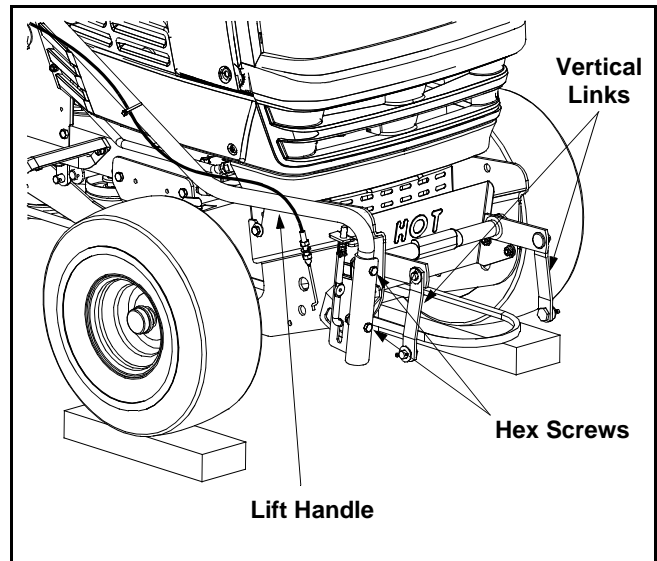

Figure 10
2. Attach the lift handle to the lift bracket found on the right side of the support carriage assembly with the two hex screws and two flange lock nuts just removed. See Figure 10.
4. Remove the clevis pin, flat washer and hairpin clip from the lower portion of each **vertical** link on the front of the support carriage assembly. See Figure 10.